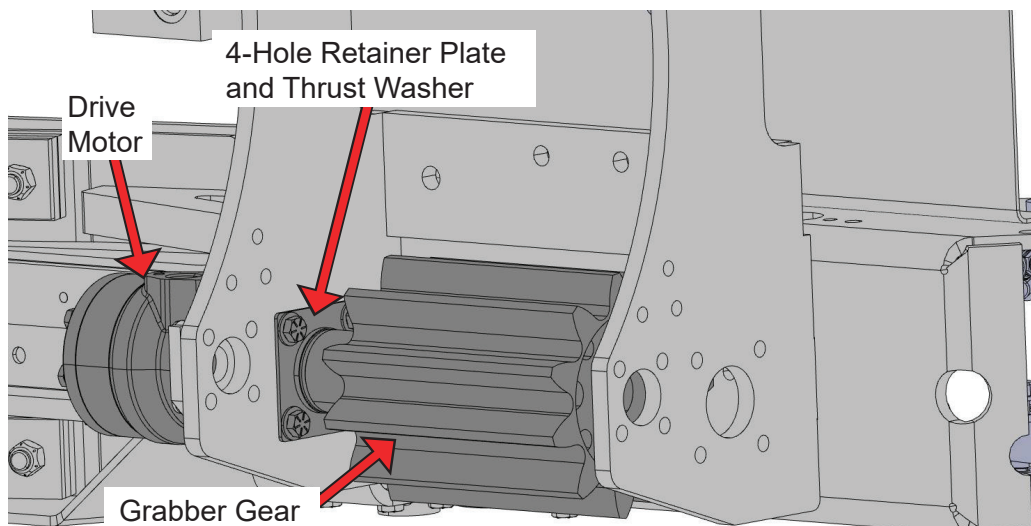
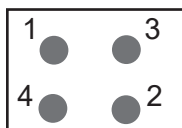

Figure 14
Figure 16
6. Use a torque wrench with a 9/16" socket to tighten the bolts to 37 ft.-lbs. Do this in a crisscrossing tightening pattern (Figure 16).
7. Repeat Steps 4-6 on the remaining three (3) bolts of this motor and again for the other motor and its (4) bolts.
8. Install the grabber gear onto the drive motor spline (Figure 14).
14. Use a torque wrench with a 9/16" socket to tighten the bolts to 37 ft.-lbs. Do this in a crisscrossing tightening pattern (Figure 16).